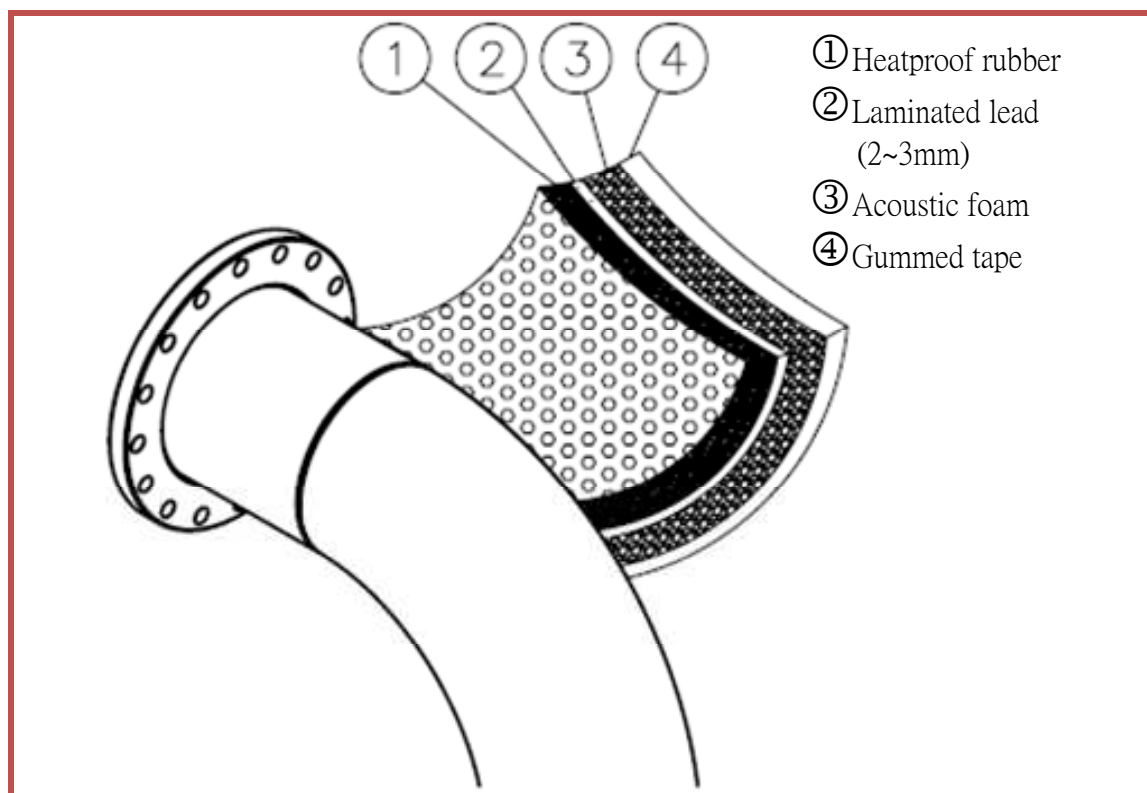

Figure 2.5 Enclosure of piping connection
2. The discharge and suction piping is recommended to be one size larger to reduce pressure drop and noise level. If the noise level is high in discharge side, it is suggested to increase the piping thickness or enclose with acoustic foam shown in Figure 2.5.